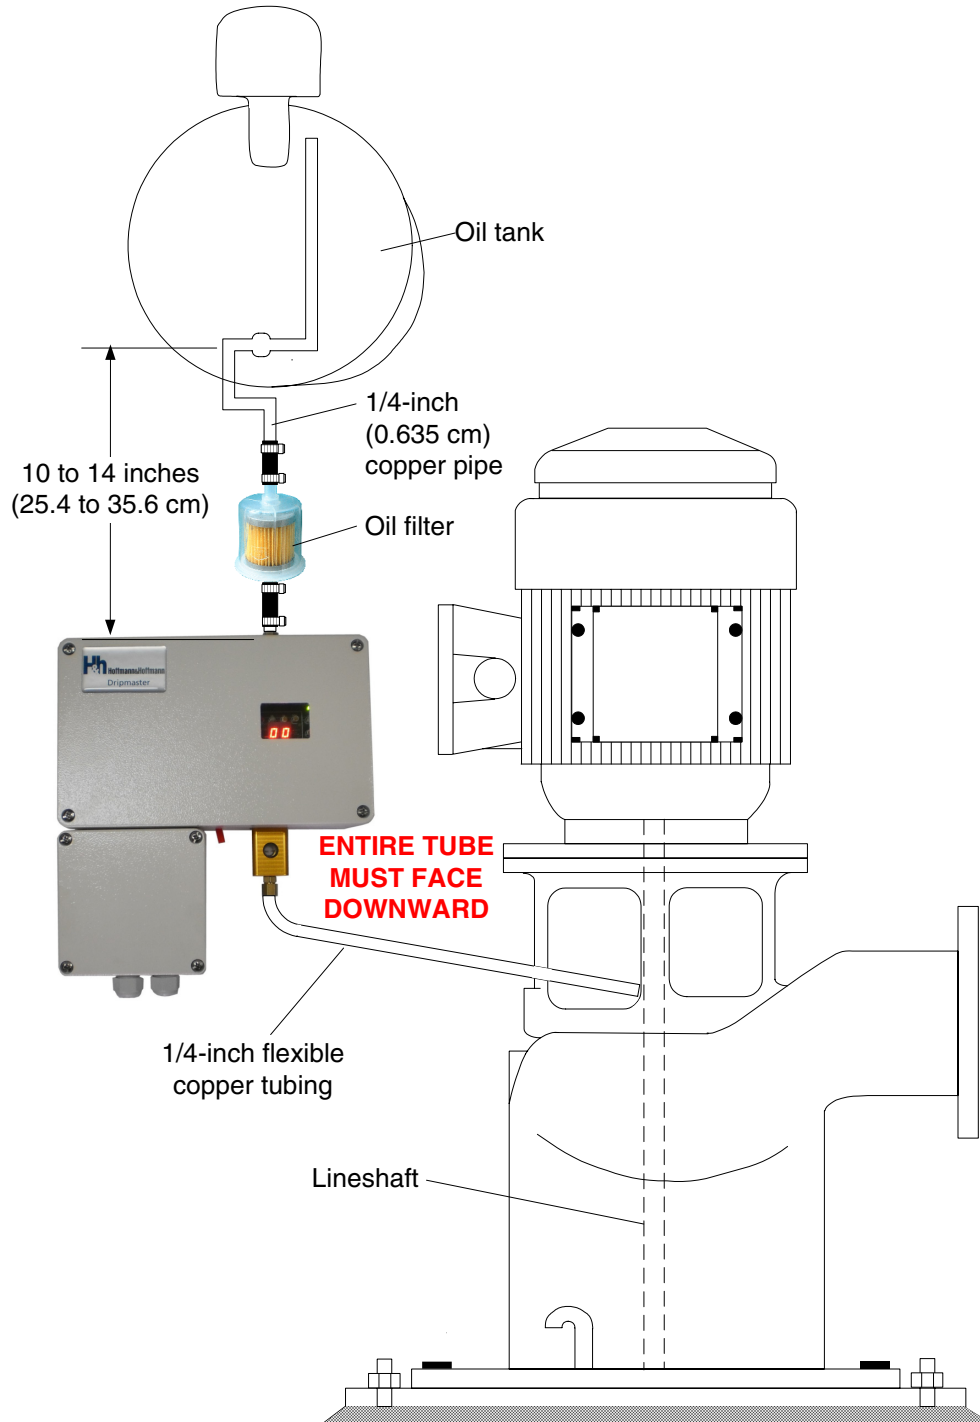
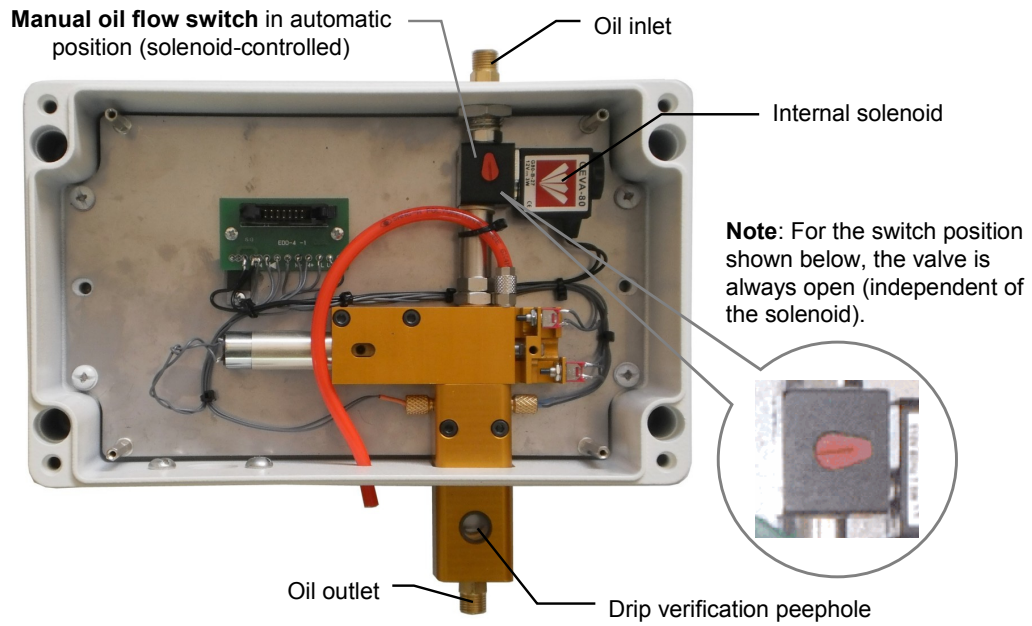

Figure 2: Installation requirements
Figure 8: Dripmaster EDD-4C Needle Valve Assembly
Important: The relative spacing between the oil tank, the Dripmaster, and the line-shaft inlet should be according to Figure 2. In order to maintain minimal oil pressure on the needle valve (especially when the oil tank is almost empty), the oil inlet should be in the range of 10 to 14 inches below the oil tank.
6. Connect the oil filter (supplied) to the oil tank (Figure 2).
7. Connect the Dripmaster oil outlet (Figure 8 on page 18, and Figure 2) to the well shaft inlet by means of flexible ¼-inch copper tubing.
Use the Drip verification peephole (see Figure 8 below) to check the drip rate.